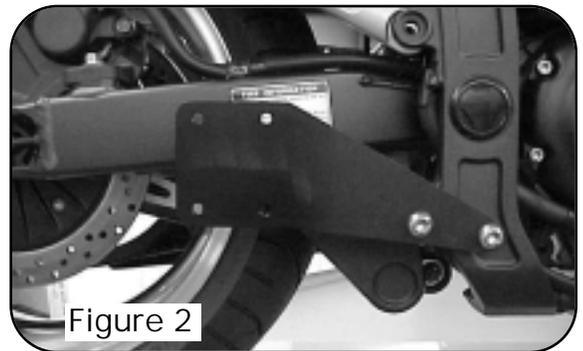

Figure 2
4. Install and tighten mounting bracket (stamped 336) to frame using supplied M10 x 25 button head allen bolts (Figure 2), If required, M10 flat washers are provided to space bracket away from frame casting ridge.